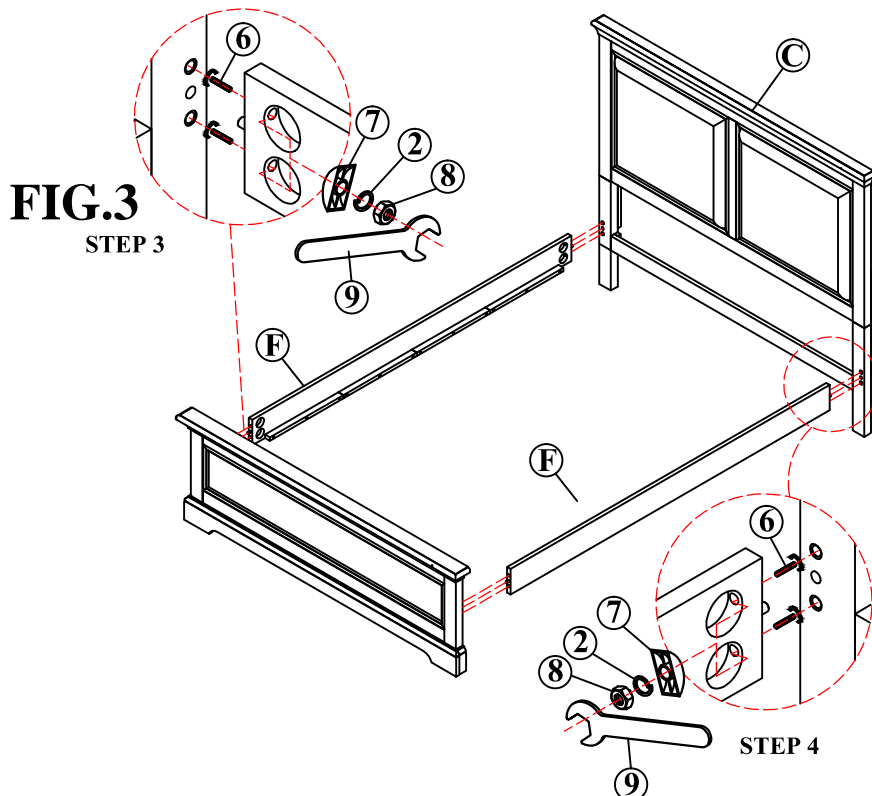

FIG.3
STEP 3: Attach both Bed Rails (F) to the Footboard (E) using the provided hardware as shown on FIG.3